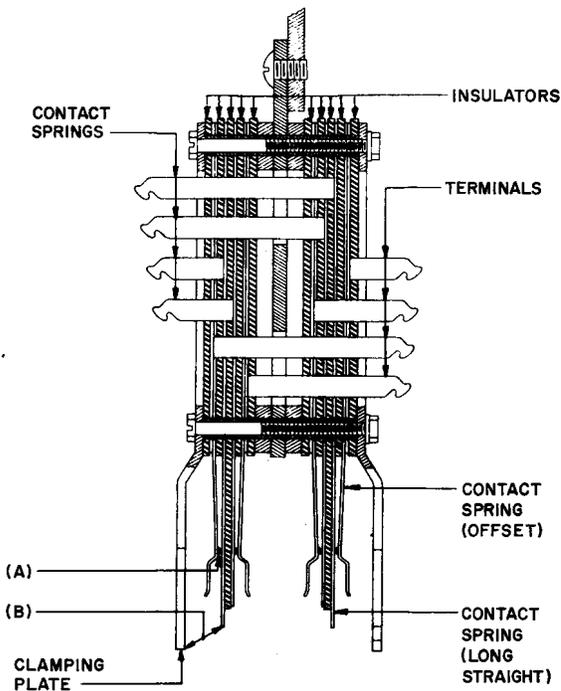

Fig. 1—Illustrating Cross-Section of 444-Type Jacks
2.01 **Contact Pressure**—Fig. 1 (A): There shall be a pressure between all closed contacts of
2.02 **Relation Between Contact Springs and Clamping Plates**—Fig. 1 (B): With the No. 301A test plug or its equivalent inserted over the long straight contact springs and the associated clamping plate, the contacts shall open. Refer to 3.03 for adjusting procedures.